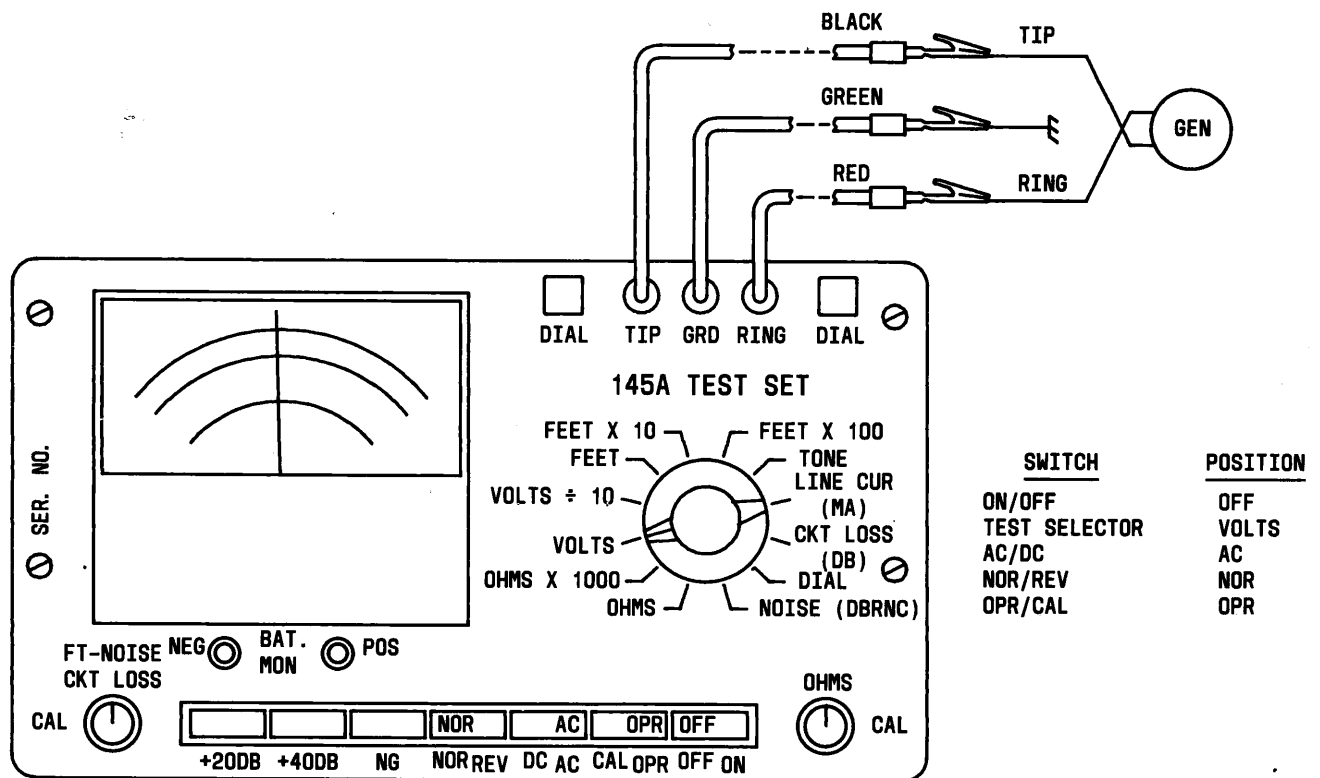

Fig. 5—AC Voltage Measurement
3.07 AC Voltage Measurement (Fig. 5):